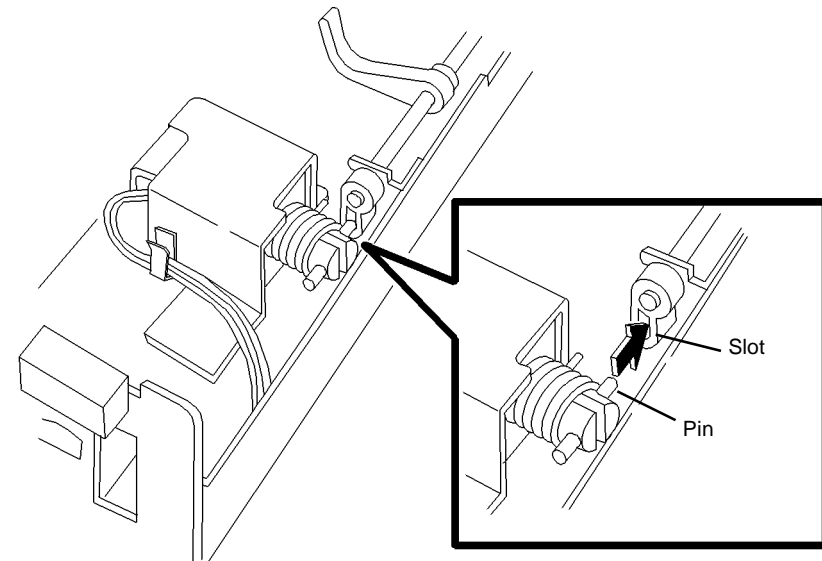

Figure 2 Engaging Pin with Slot
1. Engage pin with slot (Figure 2).